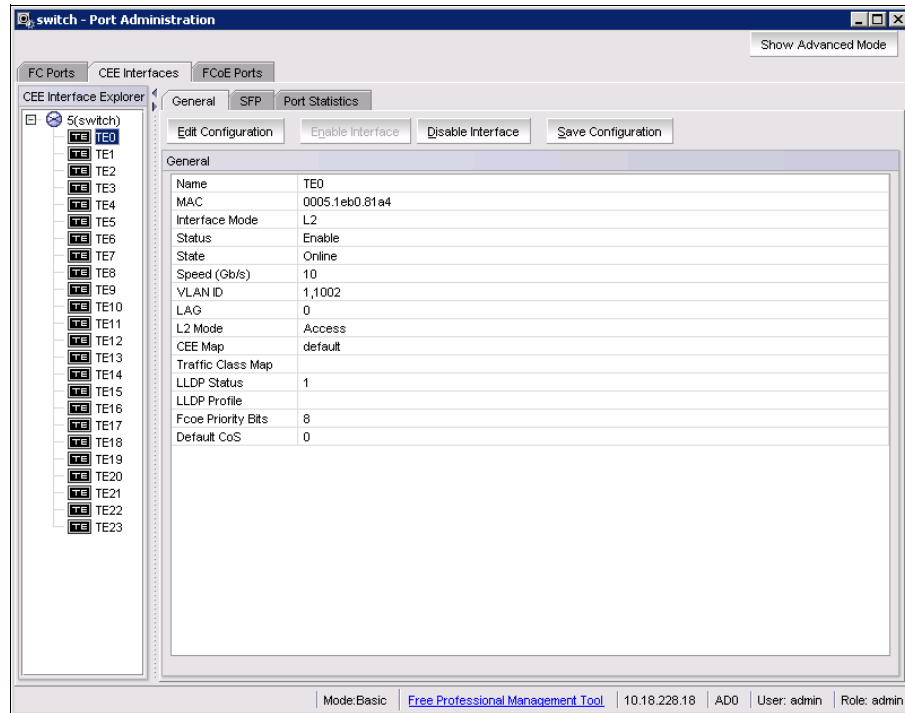

Figure 5-19 CEE Port General tab
3. Select the **General** tab (Figure 5-19). Normally, this tab is pre-selected.